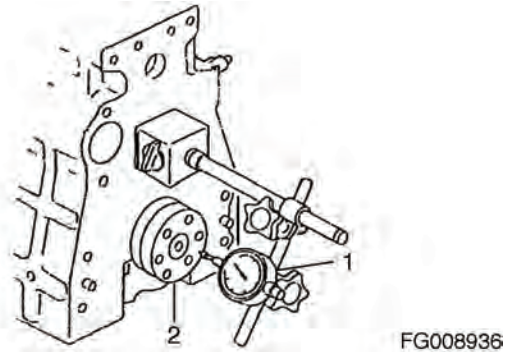

Figure 182
- Method A: Install a dial gauge (1, Figure 182) on the cylinder block. Move the crankshaft (2, Figure 182) in and out to measure the end play. Record the measurement.